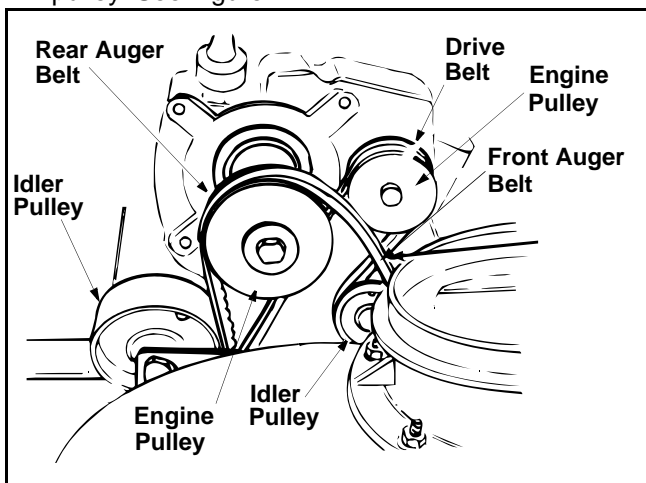

Figure 21
- Roll the front and rear auger belts off the engine pulley. See Figure 21.
- Pull idler pulley up, and lift belt off engine pulley and friction wheel disc. See Figure 21.